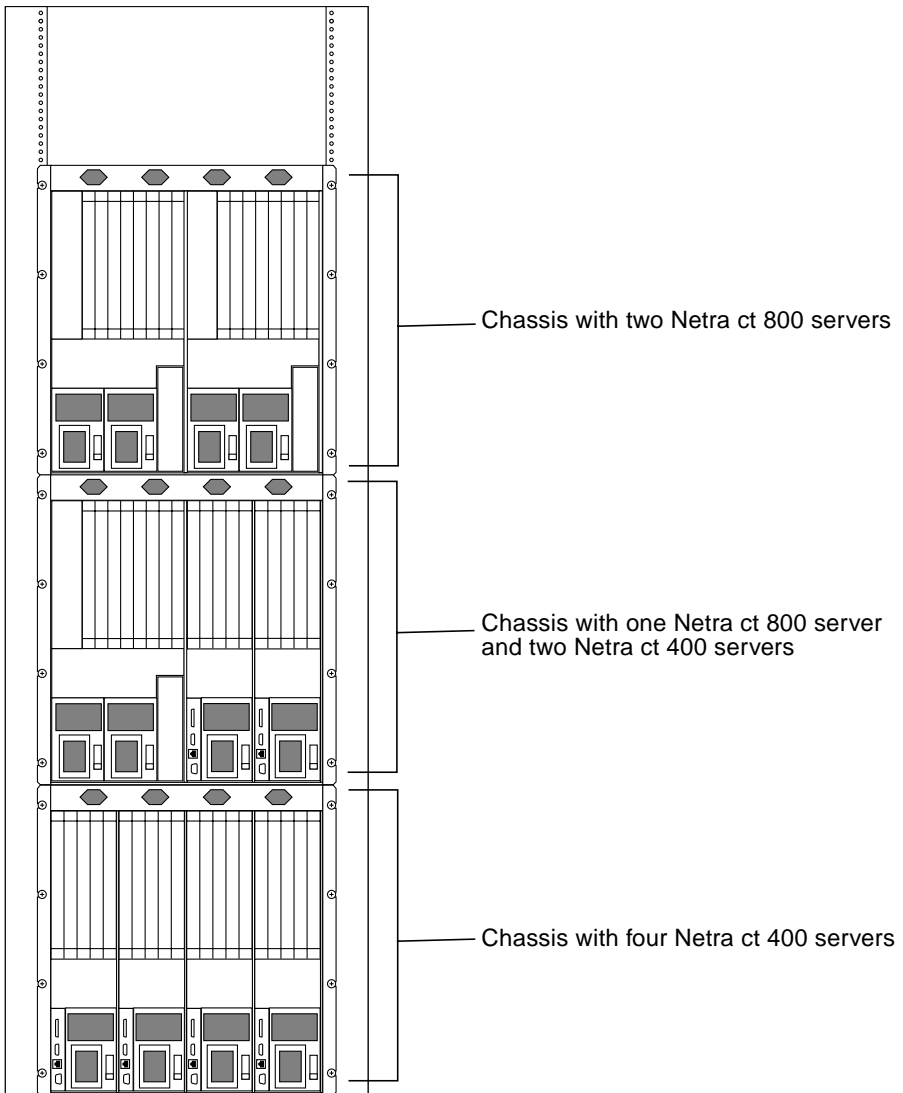

FIGURE 2-3 Example Configuration 1—Three Chassis, No External SCSI Devices
- FIGURE 2-3—Example Configuration 1—Three Chassis, No External SCSI Devices